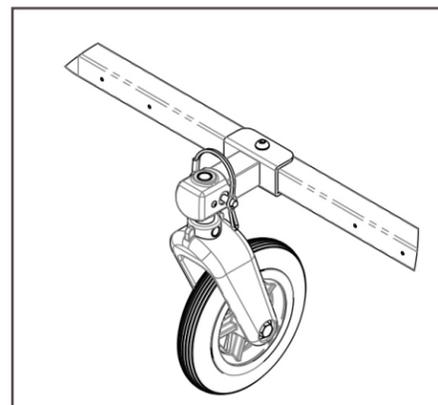

Figure 32
5. Insert the securing bolt through the hole in the top of the bracket, thread nut onto bolt at bottom of bracket and tighten securely (Fig. 32).